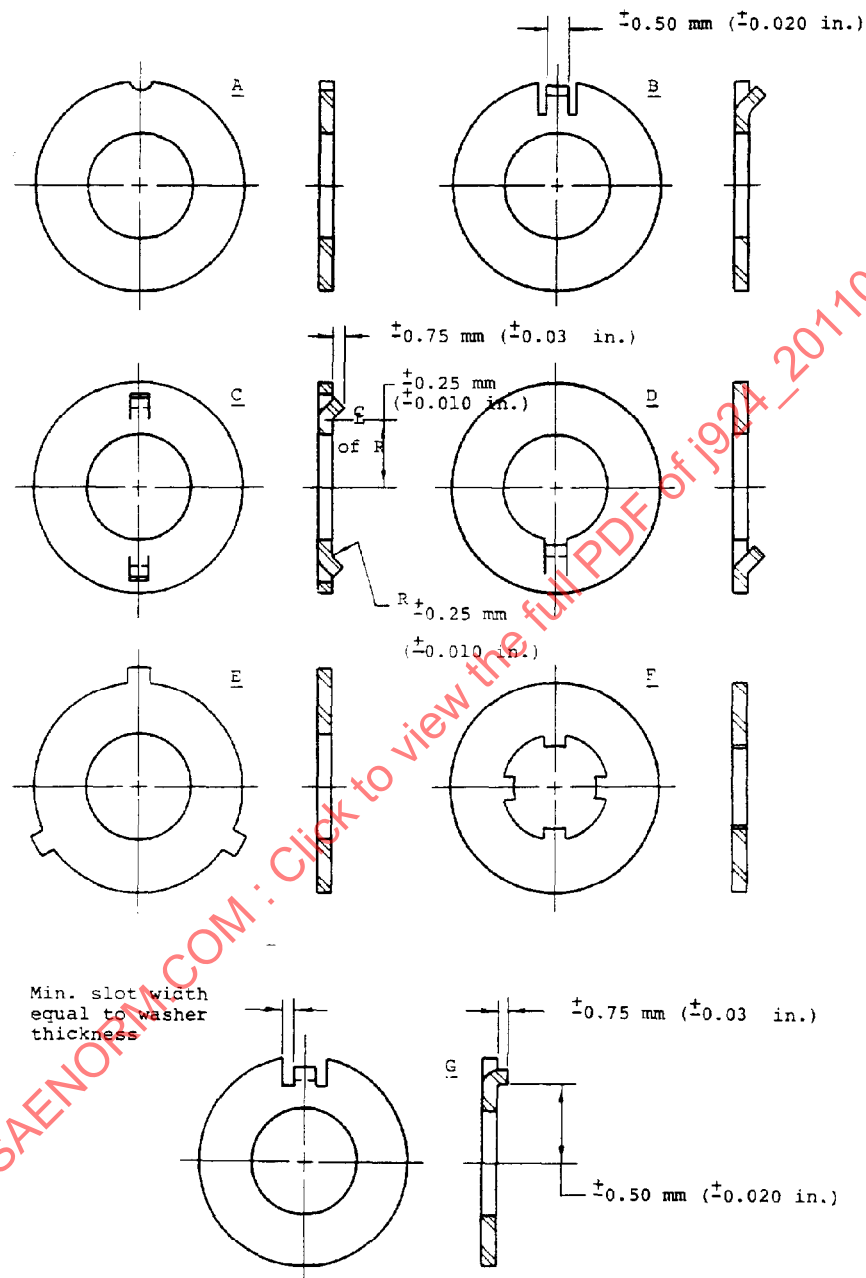

FIGURE 7—LOCATING AND RETENTION FEATURES
3.15 Locating and Retention Features—Locating or locking features, used except in the case of floating washers, can be supplied in the form of notches or tabs with standard manufacturing tolerances as shown in Figure 7.